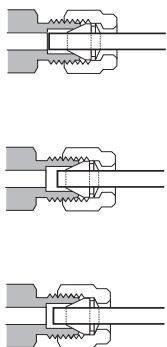

Figure 29. Completed fitting
- 10 Both correctly- and incorrectly-swaged connections are shown in **Figure 29**. Note that the end of the tubing in a correctly-swaged fitting is not crushed and does not interfere with the action of the ferrules.